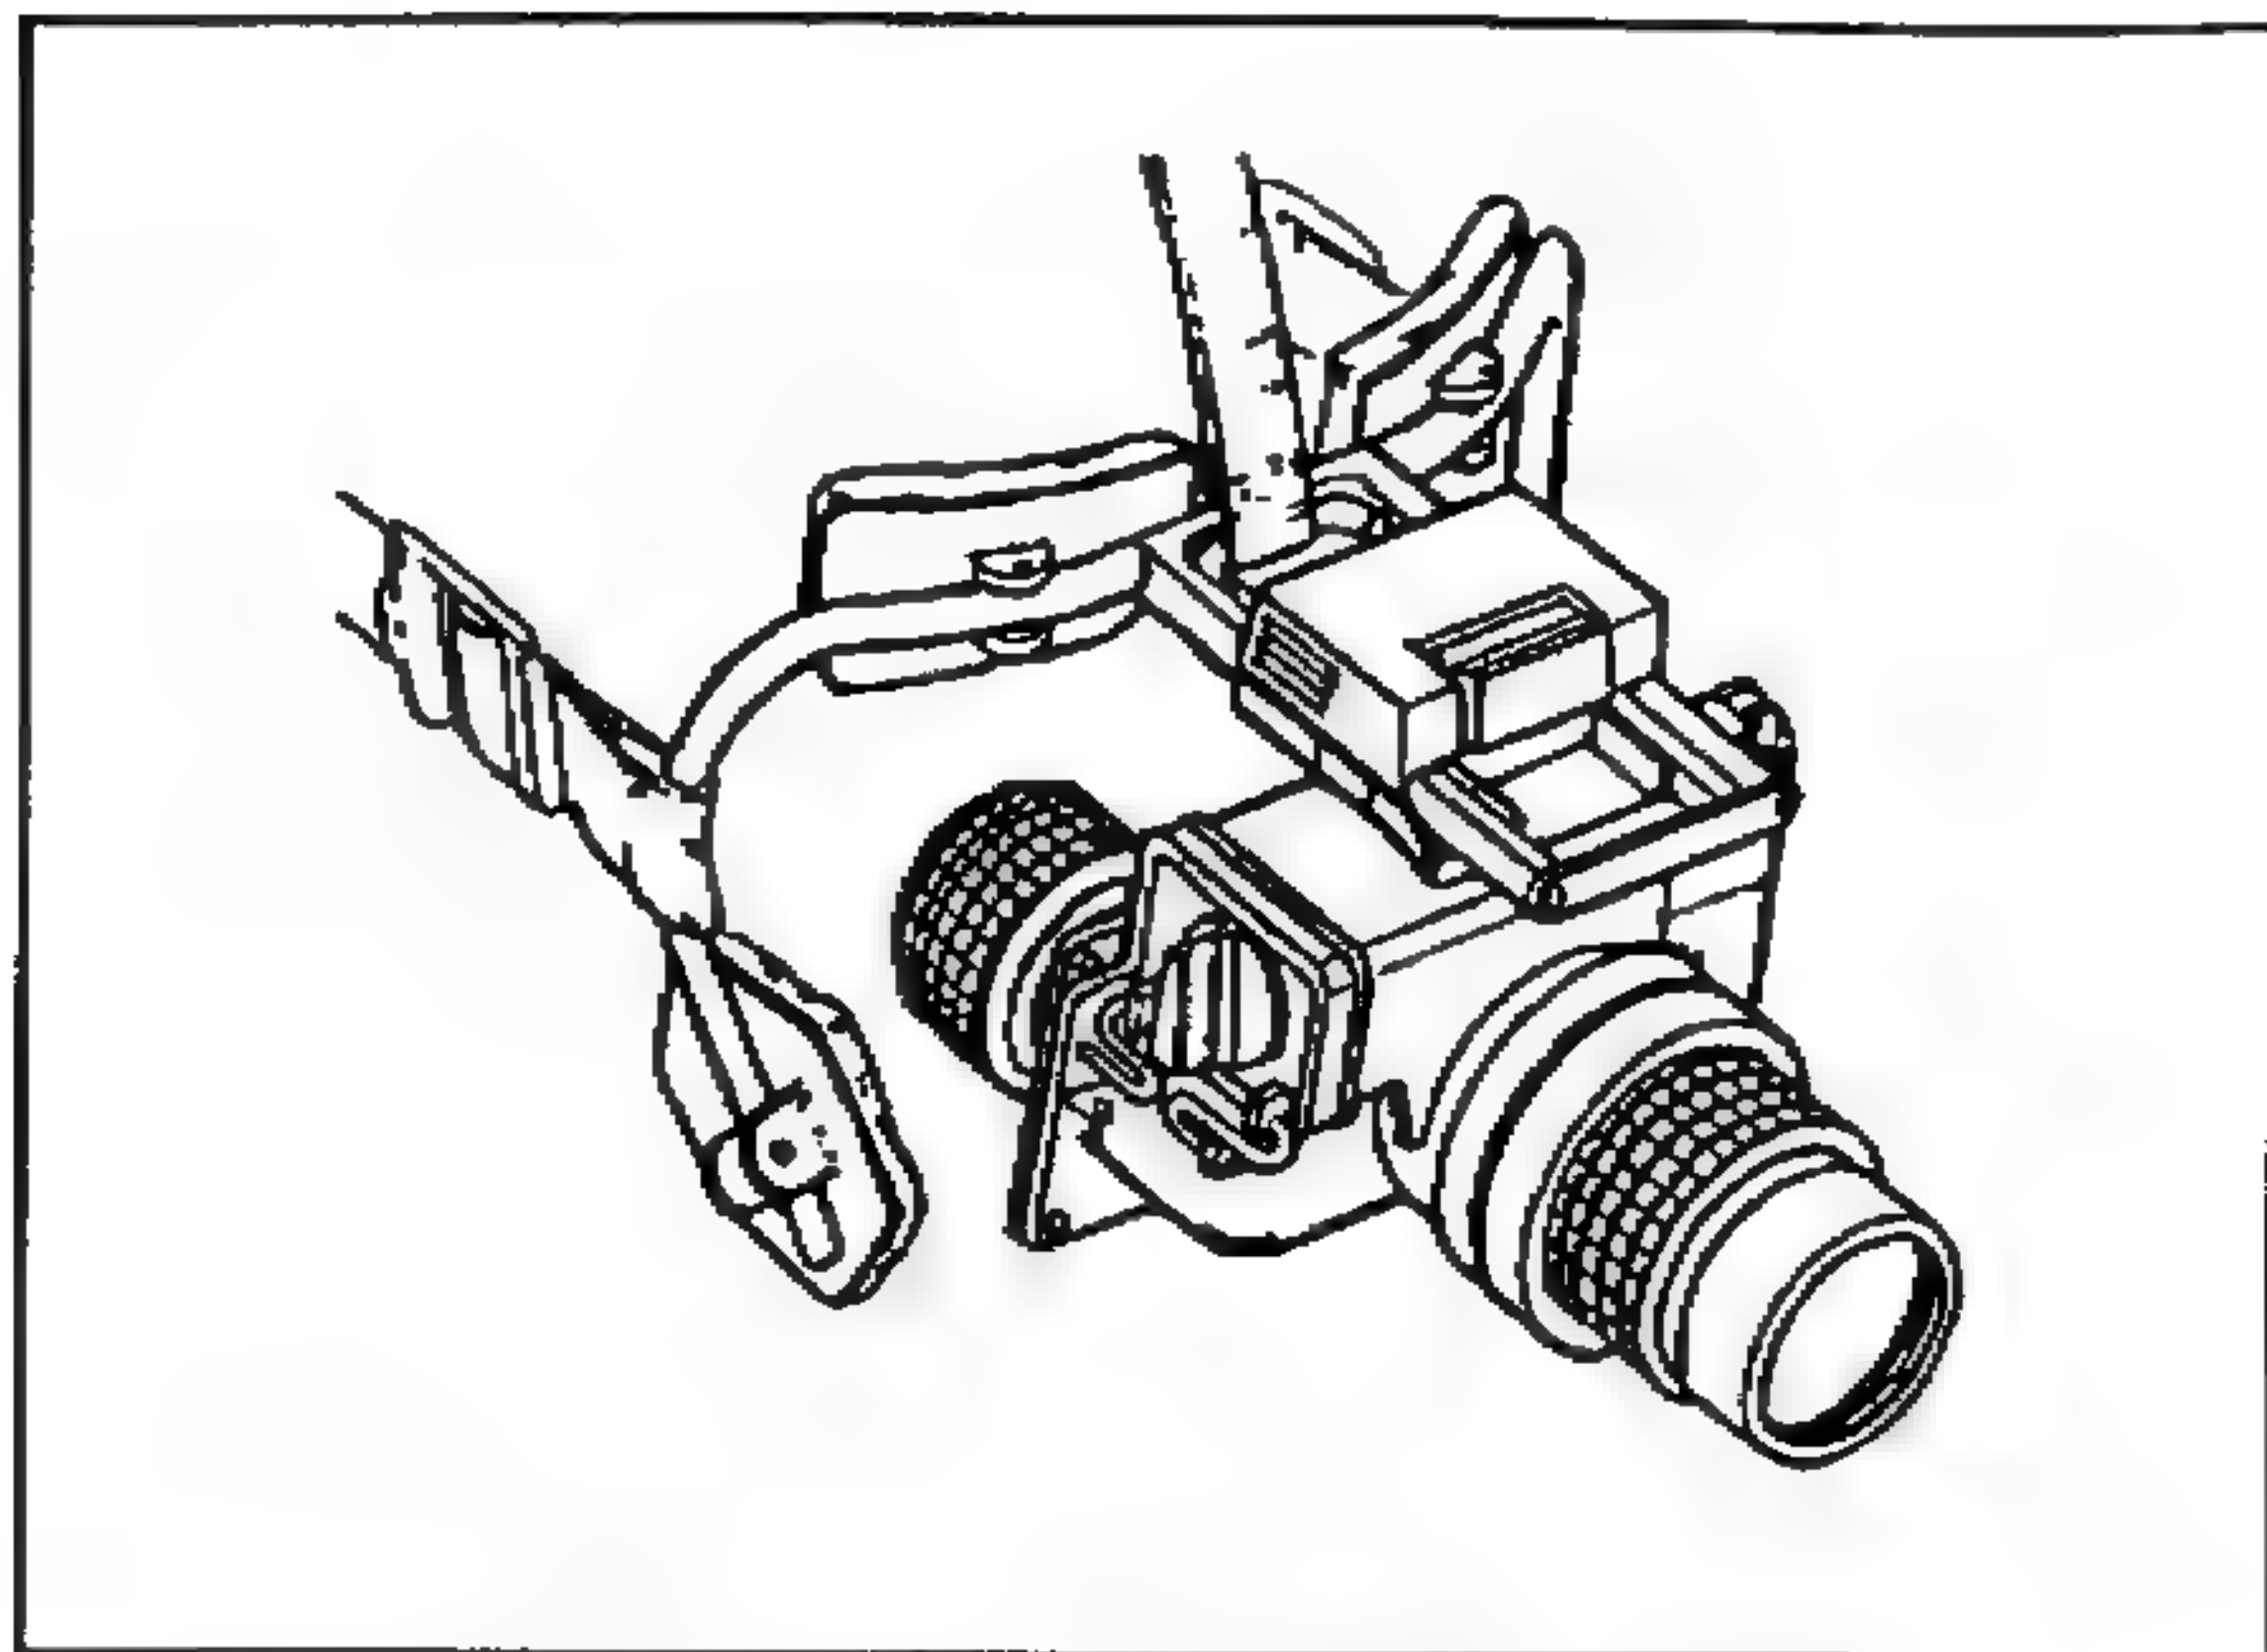

Figure 2-28. Night vision goggles, AN/PVS-7 series.
c. **Night Vision Goggles, AN/PVS-7 Series.** The night vision goggles, AN/PVS-7 series (Figure 2-28, page 2-36) has a better resolution and viewing ability than the AN/PVS-5 goggles. The AN/PVS-7 series goggles have a head-mount assembly that allows them to be mounted in front of the face so that both hands can be free. The goggles can be used without the mount assembly for hand-held viewing. (See TM 11-5855-262-10-1.)